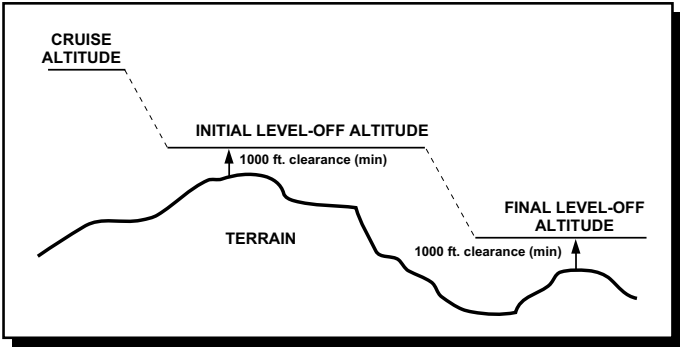

Figure 3
3. Finally, a descent profile is calculated for a pressurization problem over critical terrain (Figure 3). In this scenario, the aircraft makes a descent from cruise